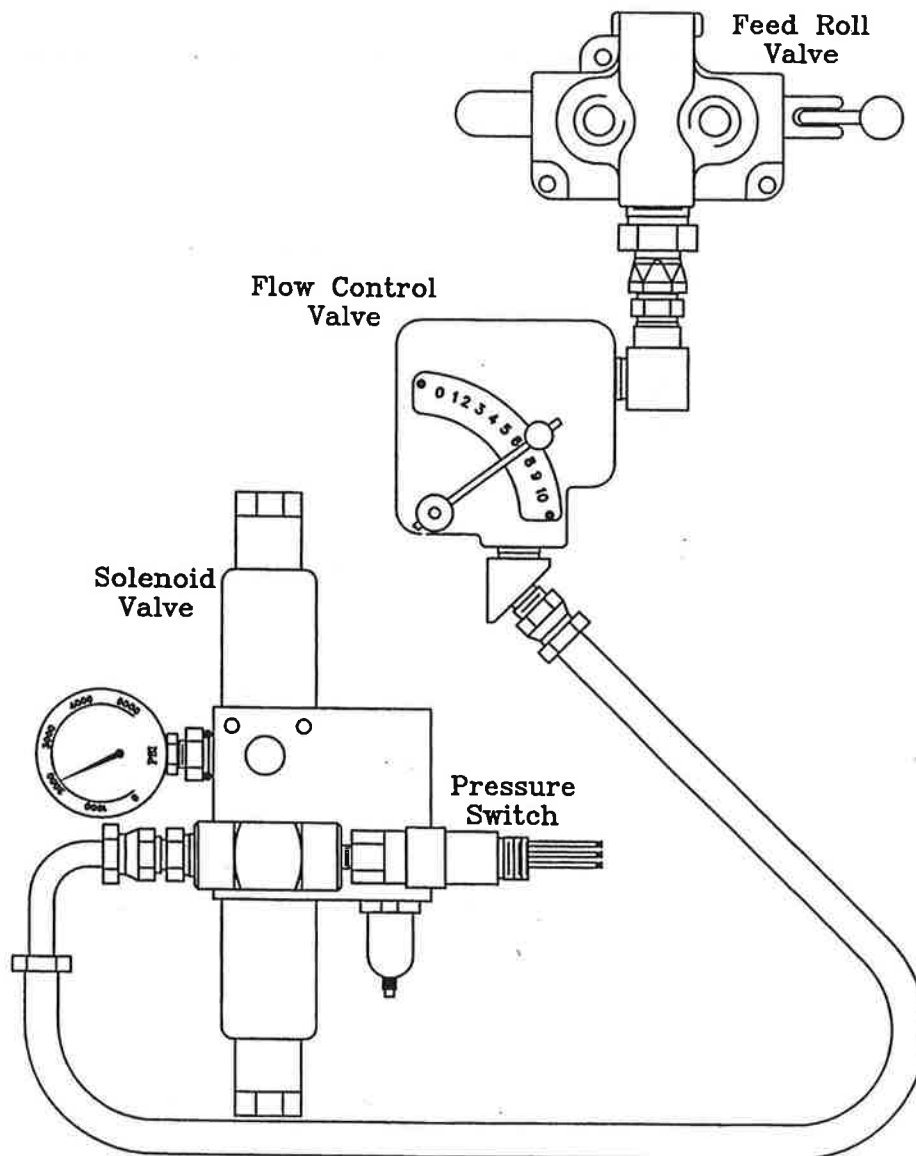
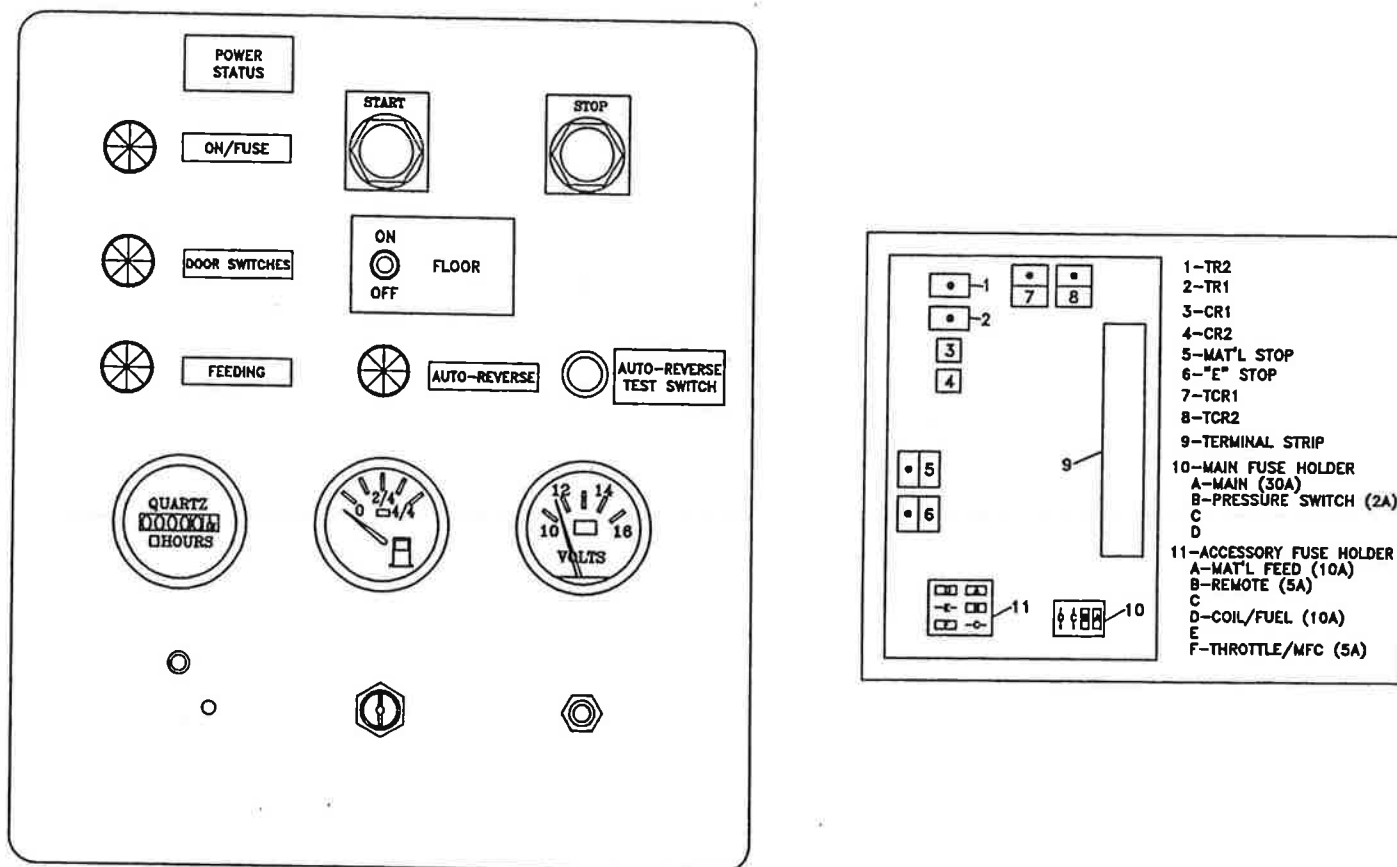

Figure 2
Figure 4
4. Check that the "ON/FUSE" and "DOOR SWITCH" lights are illuminated. If not, check the 10 AMP fuse in the control box (see Figure 4) and verify that the doors are closed at the air lock.
Oil flowing through the valve in the "forward" direction is directed to an adjustable flow control valve which splits the oil flow between the rotary air valve motor and the feed roll motor. Adjustment is made via a lever control with a set screw knob that rotates on a 90° quadrant. Proper flow control setting is between 6 and 8, allowing slightly more oil to flow to the rotary air valve motor. Excess oil flows to the three position, four way valve that controls the feed roll motor, speed and direction. (See figure 2 for valve orientation).
When the "start" button is pushed, the CR1 and CR2 relays in figure 4 are energized. This in turn energizes the "forward" solenoid on the solenoid valve, starting the air lock and the drag conveyor, assuming the conveyor toggle switch is "on". As material drops into the top of the rotary air valve, the pressure required to cut the material is monitored by a pressure switch located on the bottom work port of the solenoid control valve (see figure 2). The switch is normally open. It closes when the rotary air valve motor stalls, causing high pressure due to the air valve encountering an object it can not cut. The amount of time the pressure switch is closed is monitored by the relay TR1 in figure 4. If the switch remains closed for more than 0.5 seconds, TR1 energizes timer relay TR2. TR2 automatically reverses the rotary air valve by energizing the "reverse" solenoid and de-energizing the "forward" solenoid, and de-energizes the dump valve, shutting off the drag conveyor. The unit will remain in "reverse" until TR2 times out, which is approximately 2 seconds.
Bark Blower with Power Status Lights: (See Figure 4)
This switch is the interface between the hydraulic system and the electrical control system. The switch is normally open. It closes when the rotary air valve motor hydraulic pressure reaches the switch setting causing the motor to automatically reverse. (Note: The conveyor stops whenever the switch closes.) The switch is located on the "tee" mounted in the bottom work port of the solenoid control valve pointing toward the engine (see figure 2). Two different types of pressure switches have been used. The first consists of a brass mounting base (screwed into the hydraulics) and a black cap (connected to the electrical control system). The black cap can be turned clockwise to decrease the pressure setting. The second is all brass with a sliding collar. Sliding the collar toward the wires reveals a slotted cylinder which adjusts the switch setting. Using a small screw driver, adjust the cylinder in the same manner as the black knob on the previously described switch.
When the pressure switch closes due to high pressure, a series of relays is triggered in the electrical control system that automatically reverses the rotary air valve and stops the drag conveyor. The length of time the system remains in reverse is determined by the setting on the timer relay TR2 (see figure 4). This relay is located inside and near the top of the electrical control box labeled "MATERIAL FEED CONTROL". The relay has a digital dial graduated 0-6 seconds, indicating the approximate length of time the reverse cycle will last. Optimum setting is 2 seconds.